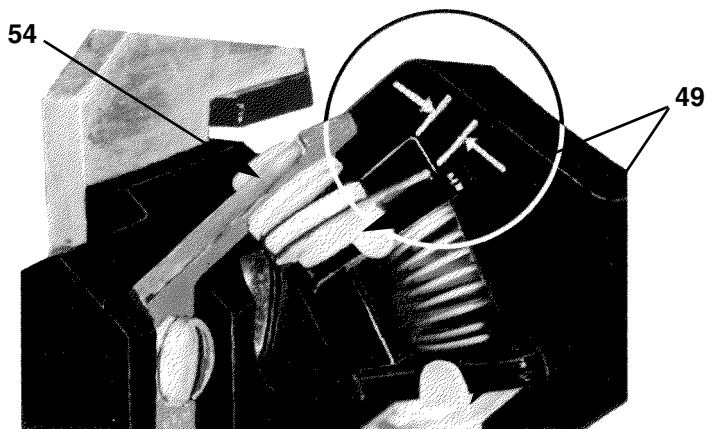

Figure 3 Electrical Interlock Contact Follow-Up
Refer to Figure 3 when adjusting the electrical interlocks.
1. Remove all power. Visually inspect that electrical interlock (item 46) has proper follow-up. With new electrical interlock contacts, moving contacts (item 49) should provide at least 1/16" follow-up on each stationary contact when contact arm reaches its limit of travel, either completely closed or completely opened (see Figure 3).
3. Electrical interlock follow-up can be adjusted by bending stationary contacts (items 53 & 54).